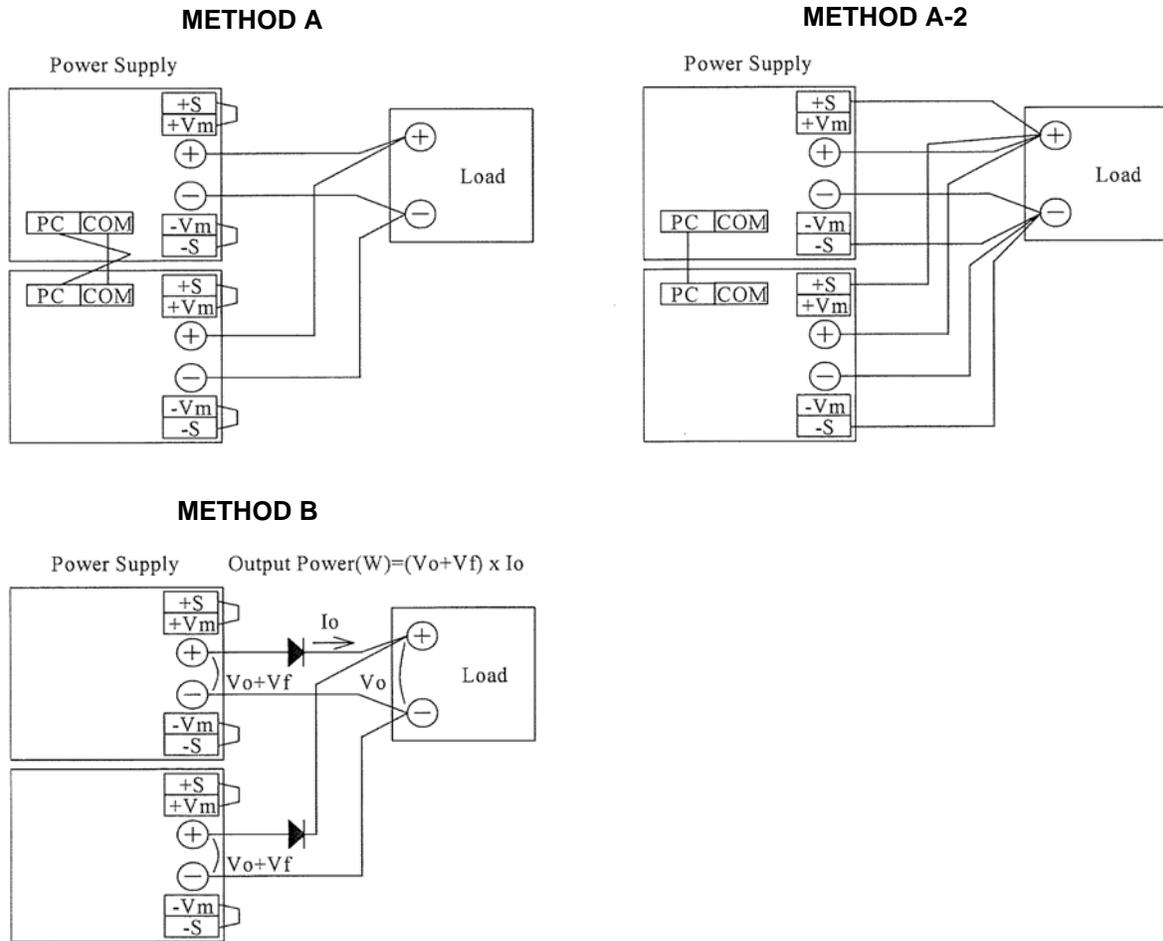

FIGURE 12. PARALLEL CONFIGURATIONS
Current balancing is functional. Operation modes (Methods A, A-2 and B) shown in Figure 12 are possible.
There is a possibility that the output could be unstable due to external noise. For this case, disconnect the COM terminal and connect -S terminal from parallel power supply to a single point on the load. Please refer connection Method (A)-2 shown in Figure 12.
### (B) To Use as a Backup Power Supply (see Figure 12, Method B)